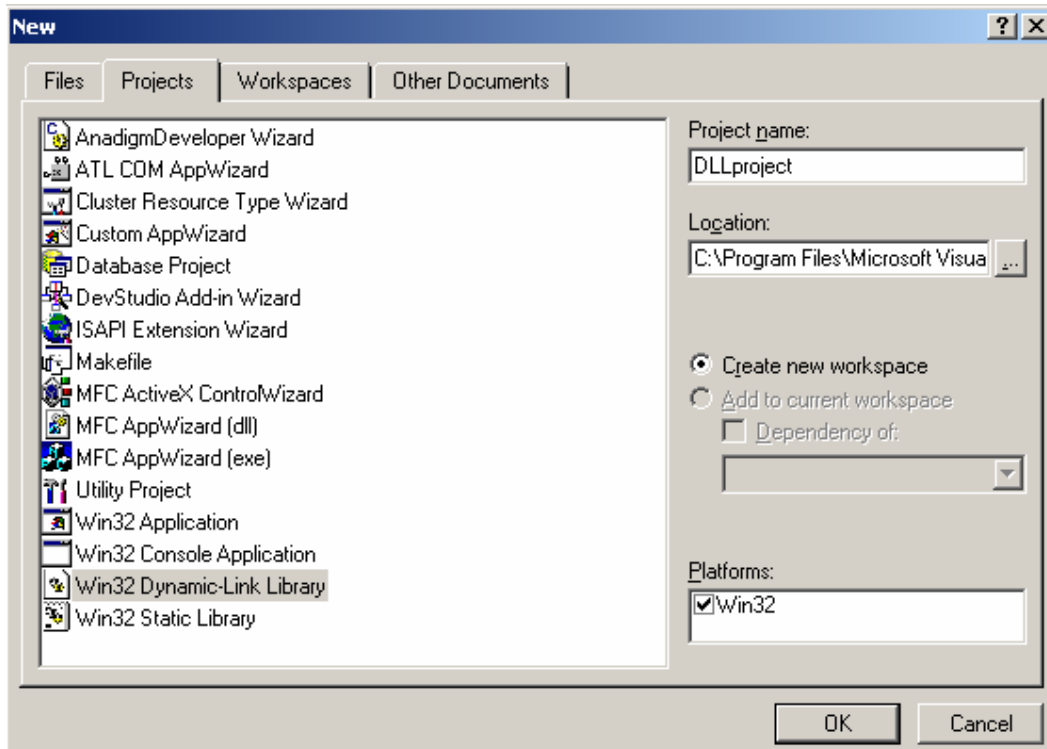

Figure 1: Creating a new DLL
2. Select "Win32 Dynamic-Link Library" and enter a project name (see figure 1).